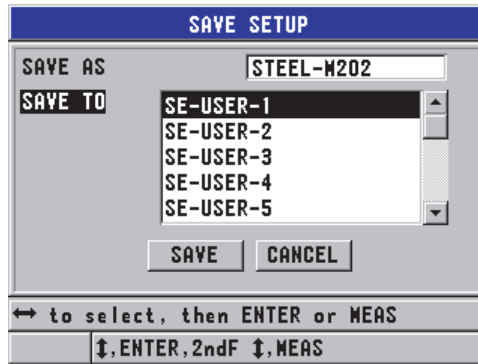

Figure 10-17 Saving custom setups
4. In the **SAVE SETUP** screen (see Figure 10-17 on page 192):